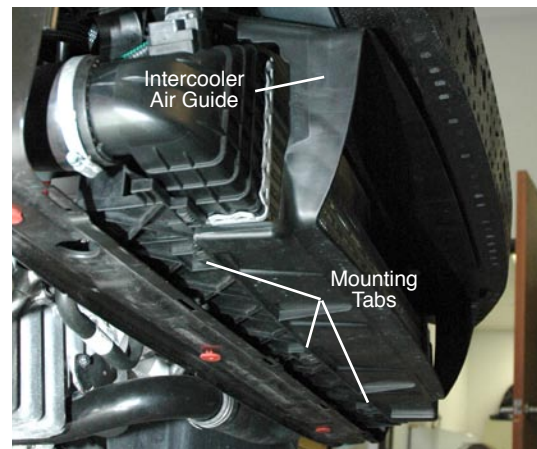

Figure 3.1
- In front of the intercooler is the intercooler air guide (see Fig. 3.1). This plastic piece is attached to the radiator assembly two (2) fasteners and three (3) plastic tabs.
- Locate and remove the two (2) T30 fasteners securing the intercooler air guide to the radiator assembly. These are located at the upper corners of the intercooler air guide.
- Release three (3) tabs securing the bottom of the air guide to the radiator assembly (see Fig. 3.1).